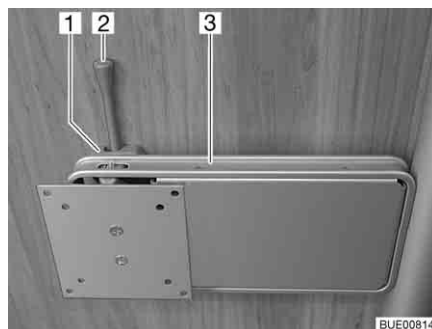

Fig. 44 Holder on the column
- Push the release lever (Fig. 44,2) to the side and turn the holder (Fig. 44,3) with the flat screen to the desired position.
- Turn flat screen back until the holder (Fig. 44,3) engages in the lock (Fig. 44,1).